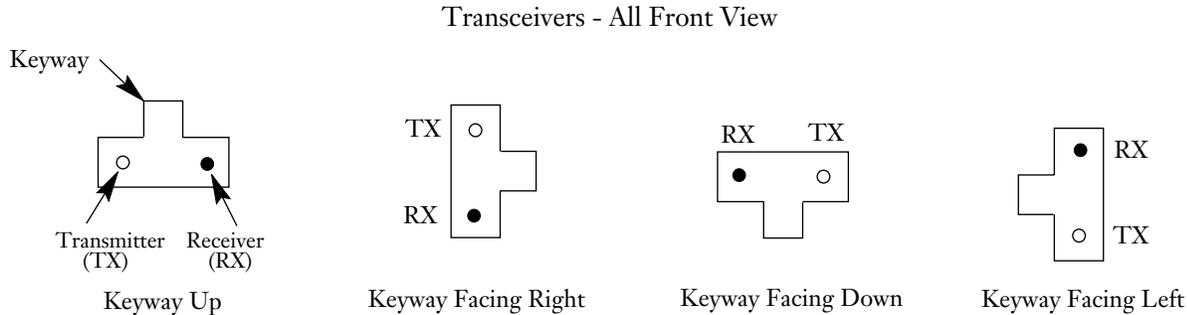

Figure 2
**2.1** System polarity ensures that the transmitter on one end of a link will communicate with the receiver on the other end. In the optical fiber industry, all transceivers have a common relationship between the transmitter and receiver relative to the keyway. Figure 2 illustrates the transmitter and receiver relationship.